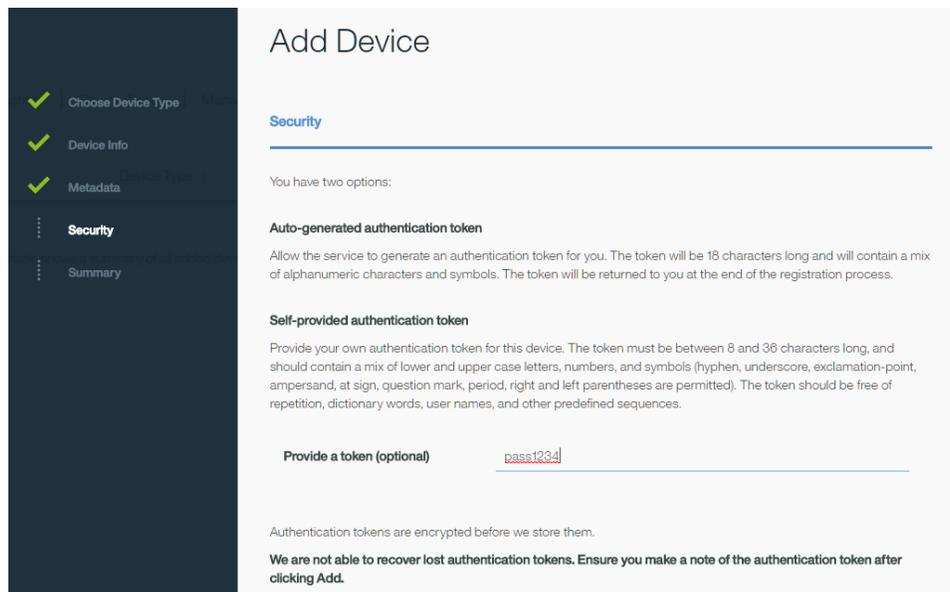

Figure 24. Providing a Token for a New Gateway Device
- Click **Next** until reaching the security options screen, as shown in Figure 24. Enter a token. Click **Next**.